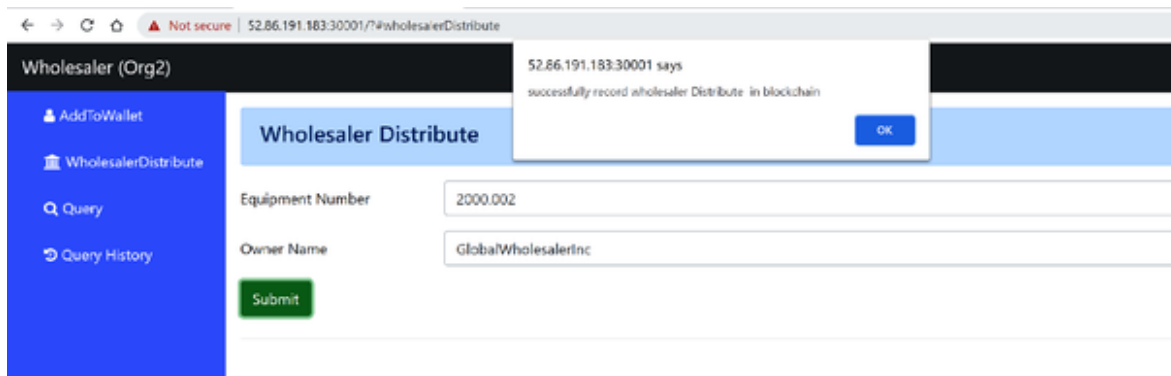

Figure 12: Adding a user (Alice) to the wholesaler
14. Add Alice as a wholesaler user (**Figure 12**) and submit a `wholesalerDistribute` request: